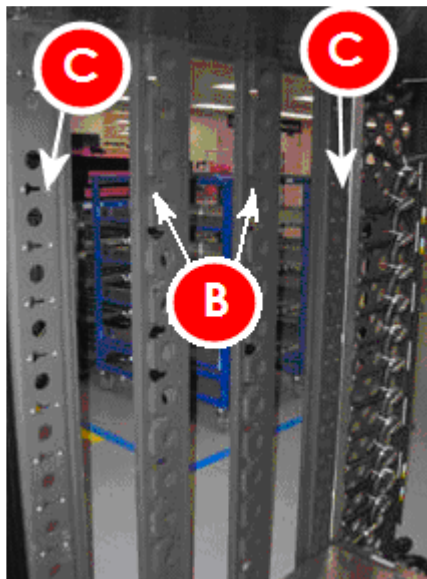
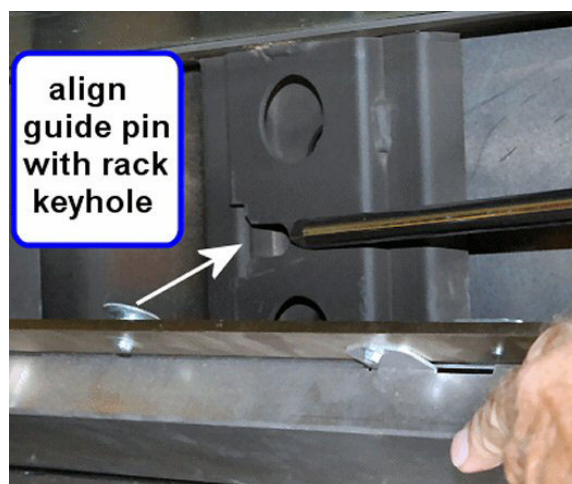

Figure 50: Rack Key Slot Locations
Figure 51: Align Mushroom Pins in Rack
STEP 48 Review that the Rails are properly oriented for Rack installation (Figure 50).
- The rail end with the thumbscrew (A) is installed at rear of the Rack.
- The two “mushroom” pins (B) and two guide pins (C) face in toward the Rack key holes.
- The side conduits (D) will be used for routing SAS cables.
STEP 49 Facing the front of the Rack, position the left side rail “mushroom” pins with the appropriate slots (B) and guide pins with the appropriate key slots (C) on the Rack (see Figure 50 and Figure 51).